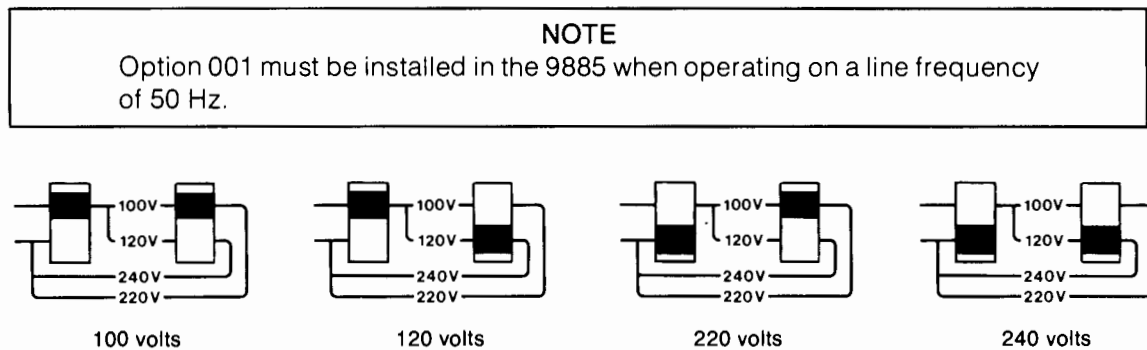

Figure 1-1. Line Voltage Selector Switches
The 9885M or S can operate on line voltages of 100, 120, 220, or 240 Vac (+5%, -10%). The line frequency must be within $\pm 3.5\%$ of 50 or 60Hz. The voltage selector switches on the rear panel must be set to the nominal ac line voltage in your area. Figure 1-1 shows the setting of the voltage selector switches for the various line voltages.
2. Set the voltage selector switches on the rear panel (see Figure 1-1) for the line voltage in your area.